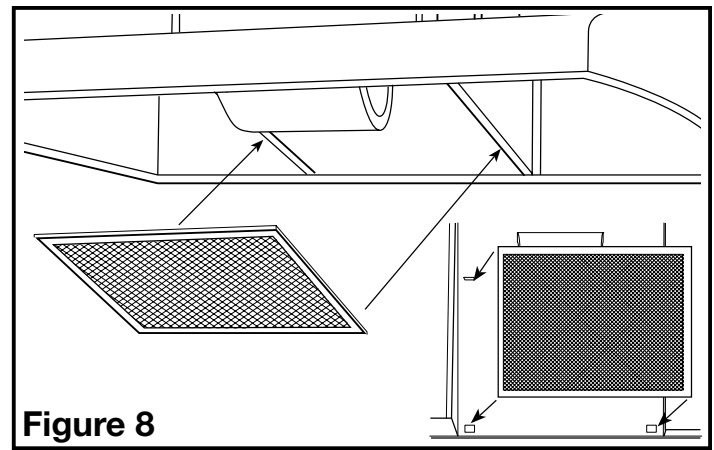

Figure 8
1. Install the appropriate filter sliding the back side of the filter into the tab and pressing the front of the filter into place (Figure 8).